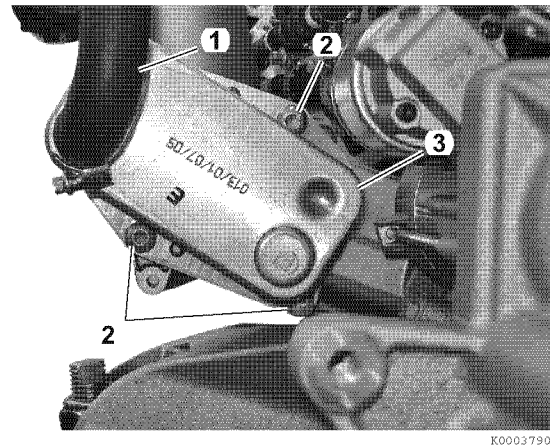

Figure 8-9
5. Disconnect coolant pipe hose (1, **Figure 8-9**) from oil cooler (3, **Figure 8-9**).
6. Remove three screws (2, **Figure 8-9**) and remove oil cooler (3, **Figure 8-9**).